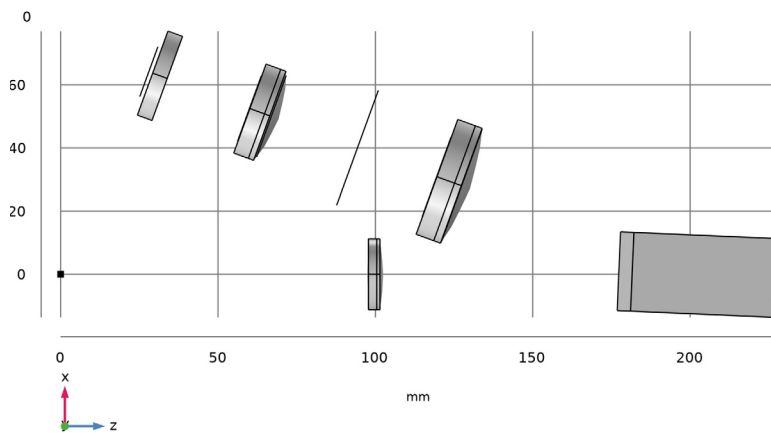

Figure 2: The Cross Grating Echelle Spectrograph geometry sequence.
After insertion, the geometry sequence should look like Figure 2. Note that the geometry is fully parameterized. Therefore, a change in the cross grating properties will cause the geometry to be updated.
- 8 Click the  **Zoom Extents** button in the **Graphics** toolbar. Orient the view to place the z-axis (optical axis) horizontal and the y-axis vertical. Compare the resulting geometry to Figure 2.